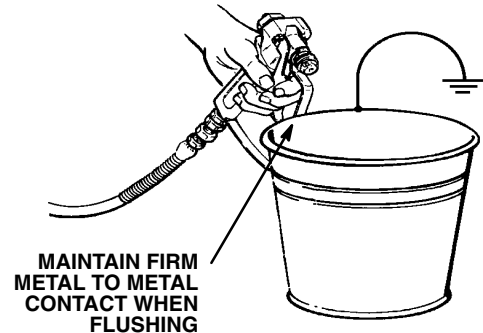

Fig 11-1
6. **To prime the pump**, hold a metal part of the gun firmly against and aimed into a metal waste container. *Refer to Fig 11-1.* Squeeze the trigger and hold it open, turn the ON/OFF switch to ON, and slowly increase the pressure setting until the sprayer starts. Keep the gun triggered until all air is forced out of the system and the paint flows freely from the gun. Release the trigger and engage the gun safety latch.